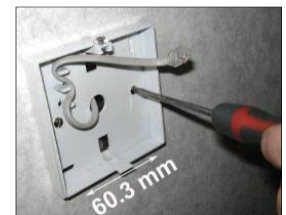

Fig 13
**Step 2** Feed one end of the RJ control cable through the switch box, feed and secure the RJ control cable through the back case and secure back case to switch box using 2 x M3.5 screws (not supplied) (see Fig 13).